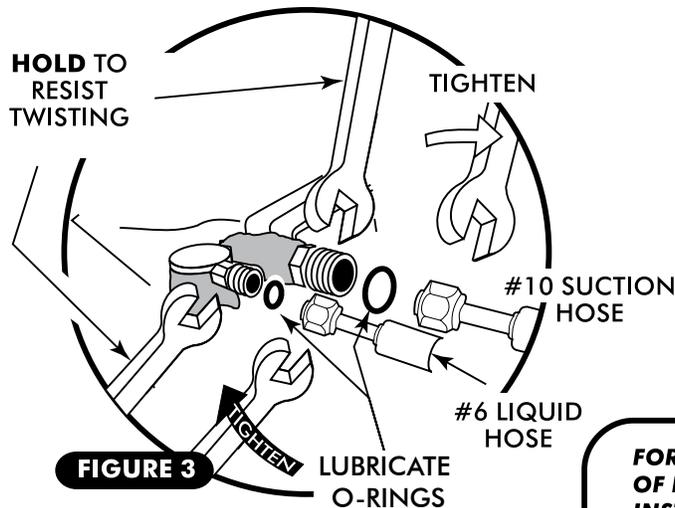

FIGURE 3
19. AFTER CRIMPING HOSES, LOCATE THE #6 A/C HOSE WITH THE STRAIGHT FITTING. LUBRICATE A #6 A/C O-RING AND THE THREADS ON THE FITTING AND INSTALL ON THE EXPANSION VALVE. TIGHTEN CAREFULLY. REFER TO FIGURES 3 & 3A, PAGE 9.
20. LOCATE THE #10 A/C HOSE WITH THE STRAIGHT FITTING. LUBRICATE A #10 O-RING AND THE THREADS ON THE FITTING, AND INSTALL ON THE #10 LINE OF THE EVAPORATOR. TIGHTEN CAREFULLY. REFER TO FIGURES 3 & 3A, PAGE 9.
21. WRAP THE #10 FITTING WITH PRESS TAPE, AND COVER ALL EXPOSED METAL SURFACES. (DO NOT WRAP THE #6 HOSE, FITTING, OR THE HEATER CORE TUBES). SEE FIGURE 3, PAGE 9.